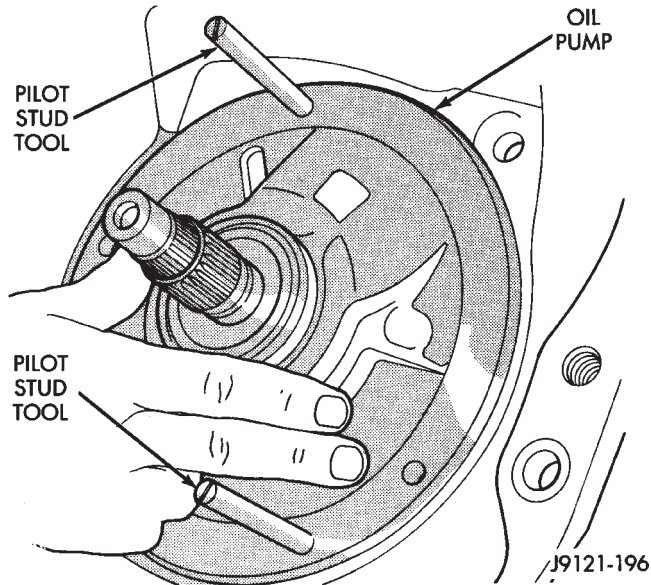

Fig. 109 Installing Oil Pump And Reaction Shaft Support
(40) Lubricate oil pump seals with Mopar® Door-Ease, or Ru-Glyde, Door Eze, or ATF Plus 3.
(41) Install oil pump (Fig. 109). Align and position pump on pilot studs. Slide pump down studs and work it into front clutch hub and case by hand. Then install two or three pump bolts to hold pump in place.
(42) Remove pilot stud tools and install remaining oil pump bolts. Tighten bolts alternately in diagonal pattern to 20 N·m (15 ft. lbs.).